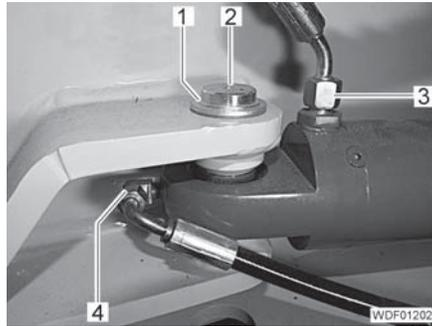

Fig. 133 Hydraulic line, bottom end
- Drive in the pin (Fig. 133,2) with the washer from above.
- Place the washer into position at the bottom and secure it with the locking ring (Fig. 133,1).
- Screw the remote lubrication line (Fig. 133,4) onto the connection on the steering cylinder and tighten.
- Screw the hydraulic line (Fig. 133,3) onto the connection on the steering cylinder and tighten.